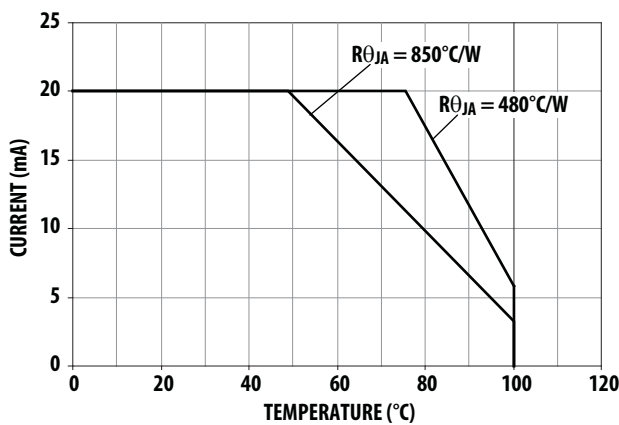

Figure 6. Maximum Forward Current Vs. Ambient Temperature. Derate Based on $T_{JMAX} = 110^{\circ}\text{C}$, $R_{\theta JA} = 850^{\circ}\text{C/W}$, 480°C/W .
1. Derate Linearly as shown in Figure 6.